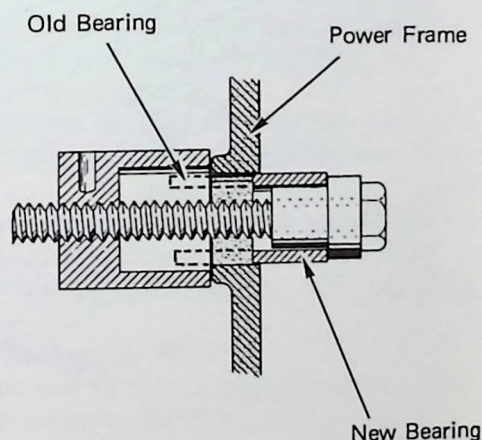

Figure 7 – Center Bearing Removal
8. Using a new bearing, install the tool as shown in Fig. 7 with the tool "finger" tight. Align the lubrication hole in the new bearing so it will line up with the hole in the power frame when the bearing is installed.